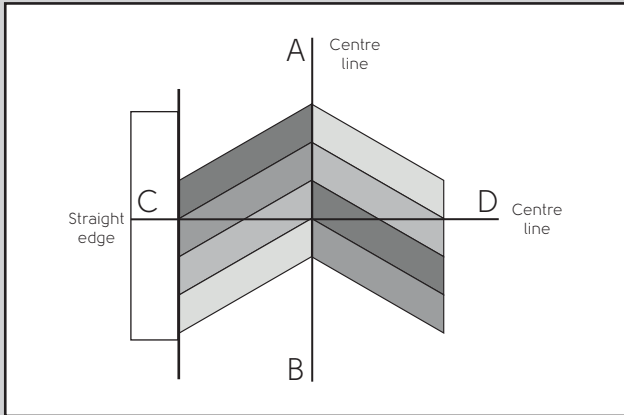
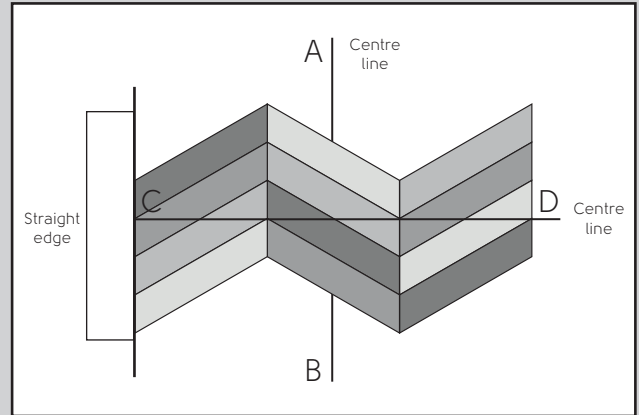

Fig. 1
Fig. 2
2. Dry lay the chevrons as shown in either (Fig. 1) or (Fig. 2) which ever gives the best appearance – one will work better than the other at the room perimeter.